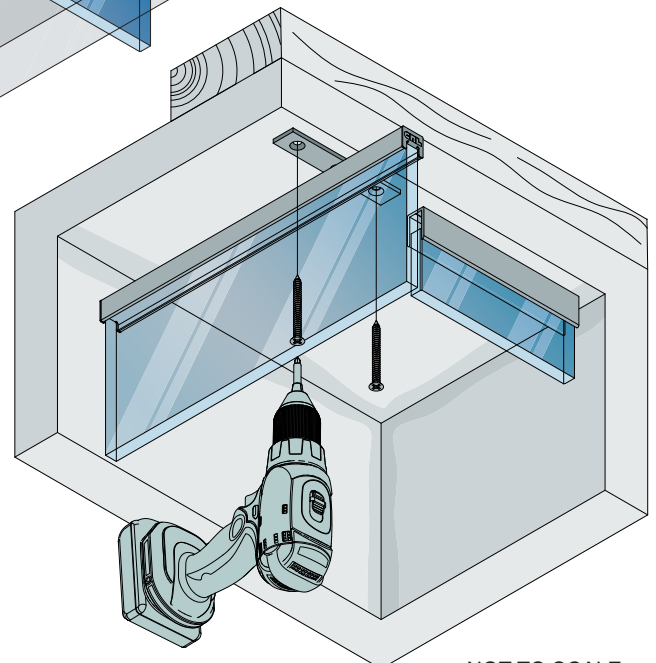

Figure 20
3. For the full height systems screw the top pivot into the ceiling or soffit with the fasteners supplied. (Figure 20)